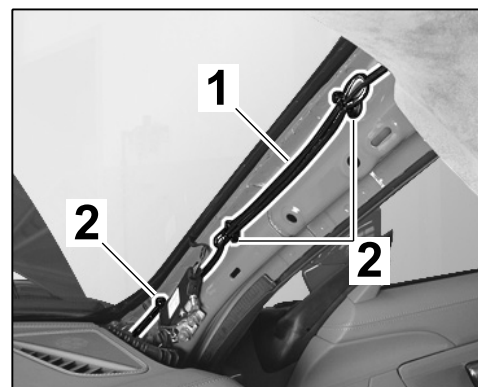

Figure 9
- 2.3.5 Pull GPS antenna line \Rightarrow *Figure 9*